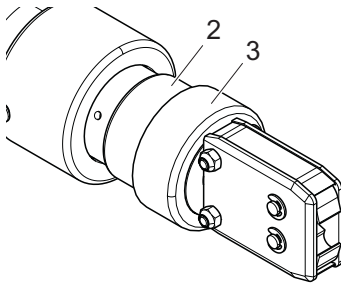

Fig. 13: Rotate the pincer head
2. Grip pincer head in area 2 (Fig. 13/2) and rotate into the desired position.